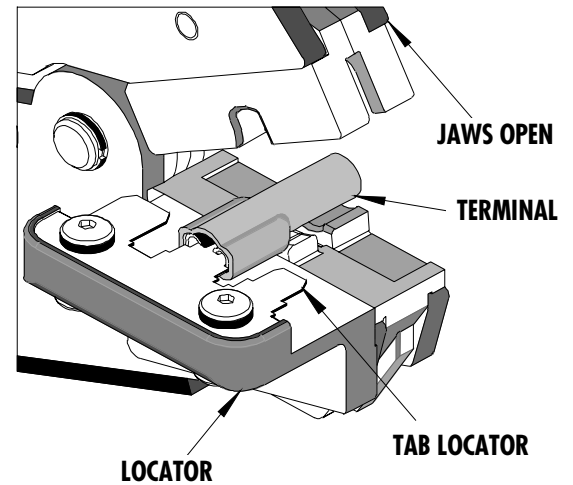

Figure 1
2. Push the terminal onto the Tab Locator all the way to the stop in the color-coded nest. The barrel of the terminal should be up (See Figure 1).